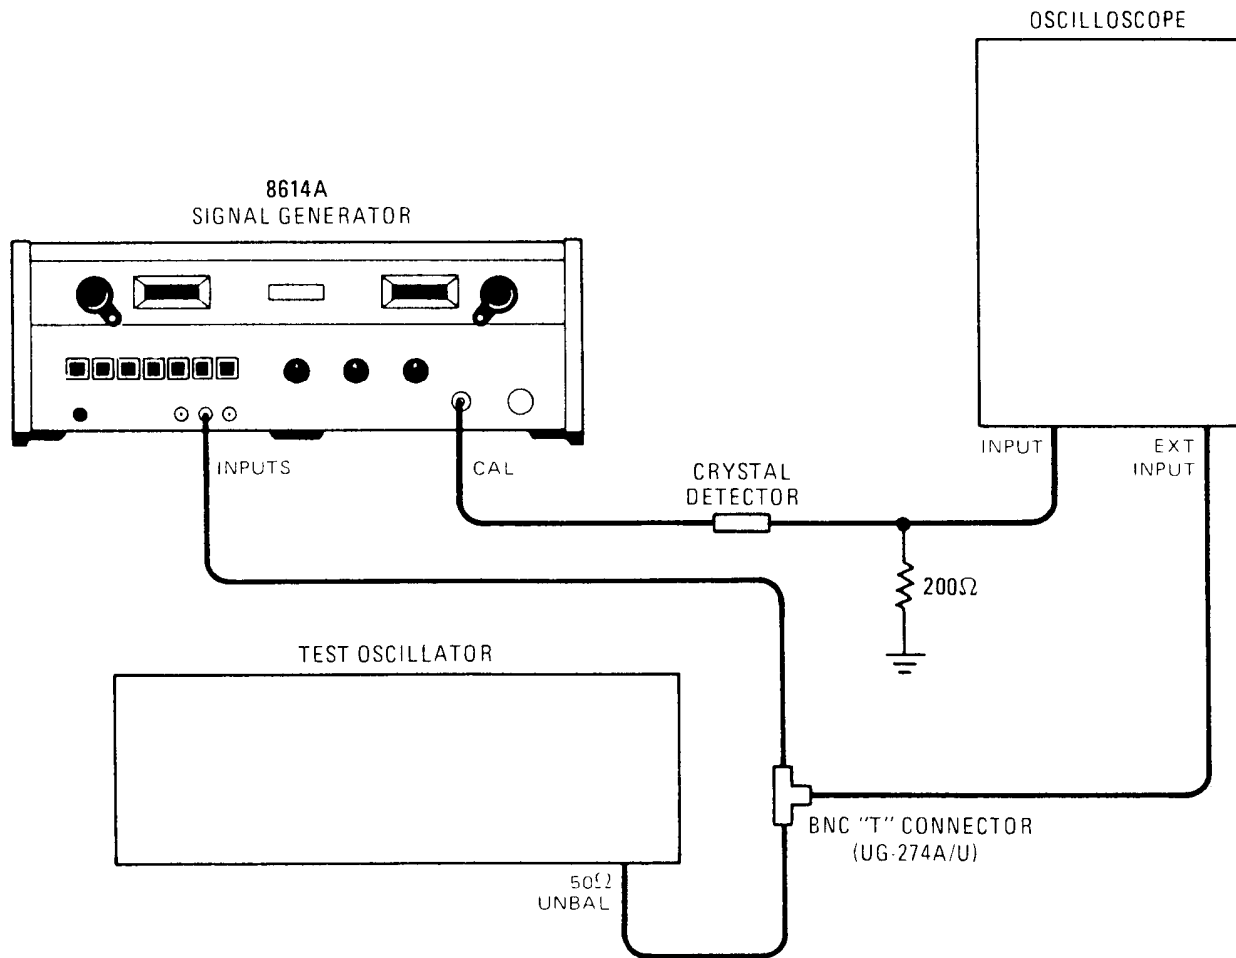

Figure 5-4. External AM Check
a. Connect instruments as shown in Figure 5-4 (see Note, paragraph 5-14, step a).